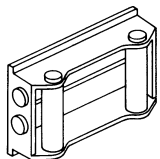

Figure 18
6. **EQUIPPING THE WINCH WITH A ROLLER FAIRLEAD** will substantially reduce wear on the wire rope during angle pulls (Figure 18). The rollers eliminate heavy rubbing and abrasion to the wire rope.